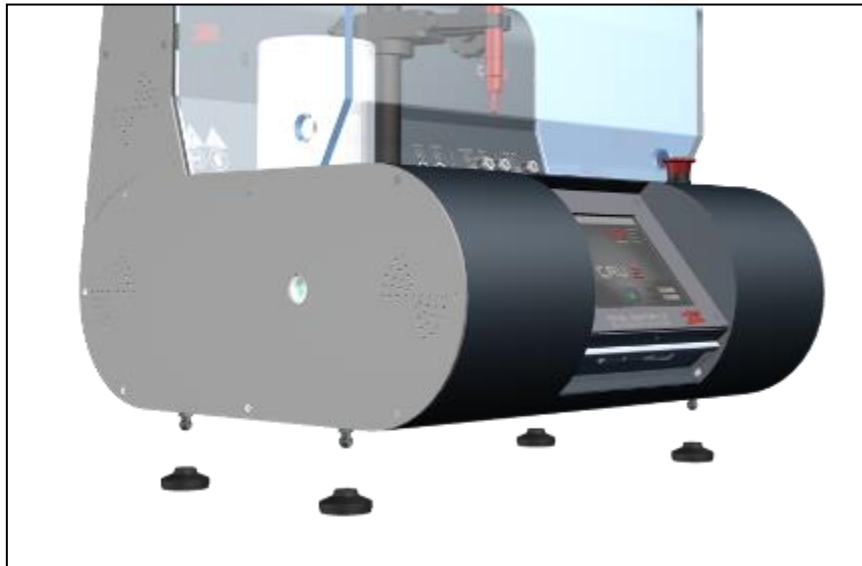

Figure 3-i
- Use a leveled, steady bench that can support the weight and vibrations of the machine, or use the PS80 Portable Stand [optional]. When using the PS80, the adjustable support pads of the CRU.2 unit should be removed (Figure 3-i).